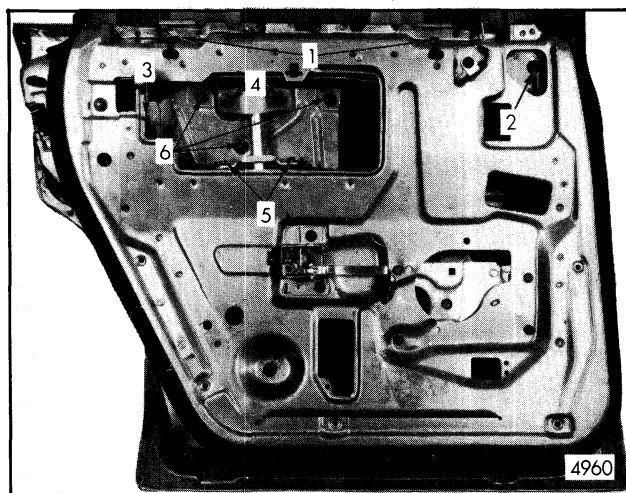
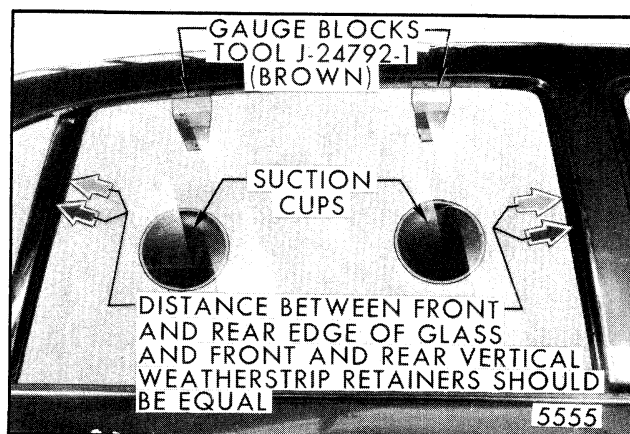
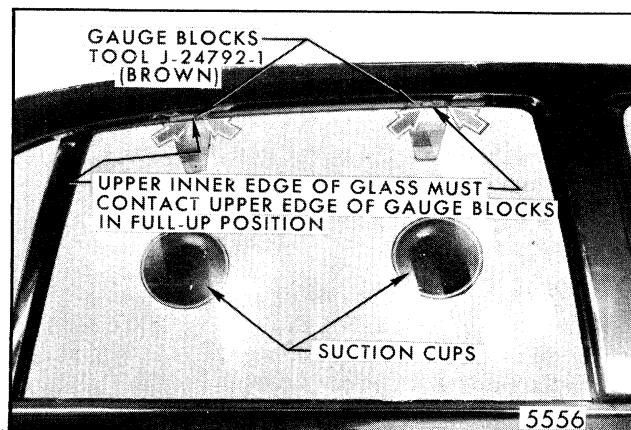

Fig. 5-141-Rear Door Window Removal and Adjustments - "A-29, 35" Styles
Fig. 5-143-Rear Door Window-Fore and Aft Alignment - "A-29, 35" Styles
Fig. 5-144-Rear Door Window-In and Out and Up-Travel Alignment - "A-29, 35" Styles
- WINDOW NOT PARALLEL WITH SIDE ROOF RAIL WEATHERSTRIP** - A rotated window condition (glass cocked in opening) can be corrected by loosening front and rear up-travel stops ("2" and "3", Fig. 5-141) and lower sash upper guide ("4", Fig. 5-141). Position glass with upper edge parallel with side roof rail weatherstrip. Then tighten lower sash upper guide attaching nuts and raise glass to establish proper contact with side roof rail weatherstrip. Torque up-travel stop attachments to 60 to 90 inch-pounds. Torque lower sash upper guide attaching nuts to 72 inch- pounds.
- WINDOW TOO FAR INBOARD OR OUTBOARD ALONG UPPER EDGE** - Loosen belt trim support retainers ("1", Fig. 5-141) and lower sash lower guide ("5", Fig. 5-141) and position glass inboard or outboard as required. Outboard adjustment of the lower guide moves the upper edge of the glass inboard. Conversely, inboard adjustment moves the upper edge of the glass outboard. With glass in a full-up position, reposition belt trim support retainers against inner surface of glass sufficiently to stabilize glass, but not restrict operation. Torque previously loosened attaching components to 60 to 90 inch-pounds.
- WINDOW TOO HIGH OR LOW IN UP POSITION** - Loosen front and rear up-travel stops ("2" and "3", Fig. 5-141) and operate window to desired position to establish proper glass to side roof rail weatherstrip contact. Then torque up-travel stop screws to 60 to 90 inch-pounds.
- WINDOW TOO FAR FORWARD OR REARWARD** - Loosen lower sash channel guide plate attaching nuts ("6", Fig. 5-141) and reposition glass as necessary. Torque guide plate attaching nuts to 72 inch- pounds.
- WINDOW MECHANISM BINDS WHEN OPERATING** - Ease of window operation and window stability depend to a great extent on belt trim support retainers ("1", Fig. 5-141). The support retainers should contact the glass throughout the full cycle of the window. Due to slight variations in glass contour, however, in some cases the strip may lose contact with the glass half-way through the cycle. This is permissible provided it does not result in loose glass. Contact should be sufficient to stabilize glass, but not restrict ease of window operation.
4. Working from inside the body, with the door in the closed position, loosen front and rear up-travel stops ("2" and "3", Fig. 5-141) and belt trim support retainers ("1", Fig. 5-141).
5-142), proceed with step 6. If the distance (space) between the upper edge of the glass and both upper gauge blocks is not equal, loosen lower sash upper guide attaching nuts ("4", Fig. 5-141) and adjust glass as necessary.
6. Raise rear door window assembly until contact is established between upper edge of glass and both upper gauge blocks. Determine if the rear door window is centered fore and aft in the window opening. The distance between the front and rear edge of glass and front and rear vertical weatherstrip retainers should be the same as shown in Figure 5-143. If glass is properly positioned, proceed with step 7. If rear door window assembly is not properly centered in its opening, loosen sash guide plate assembly attaching nuts ("6", Fig. 5-141) which control the fore and aft adjustment and move glass forward or rearward as necessary.
- Loosen lower sash lower guide assembly ("5", Fig. 5-141). Apply firm outboard pressure against the bottom of the lower sash guide plate assembly to remove slack in the system and to hold the upper inner edge of the glass inboard against the outer edge of the gauge blocks as shown in Figure 5-144. Then tighten lower guide attaching screws.
- With the glass in the full-up position against the upper gauge blocks as shown in Figure 5-144 tighten up-travel stops and adjust belt trim support retainers for proper tension against glass.
- Remove front and rear up-travel stops ("2" and "3", Fig. 5-141) and belt trim support retainers ("1", Fig. 5-141).
- Raise window to within two inches of a full-up position and remove lower sash guide plate assembly to glass attaching nuts ("6", Fig. 5-141).